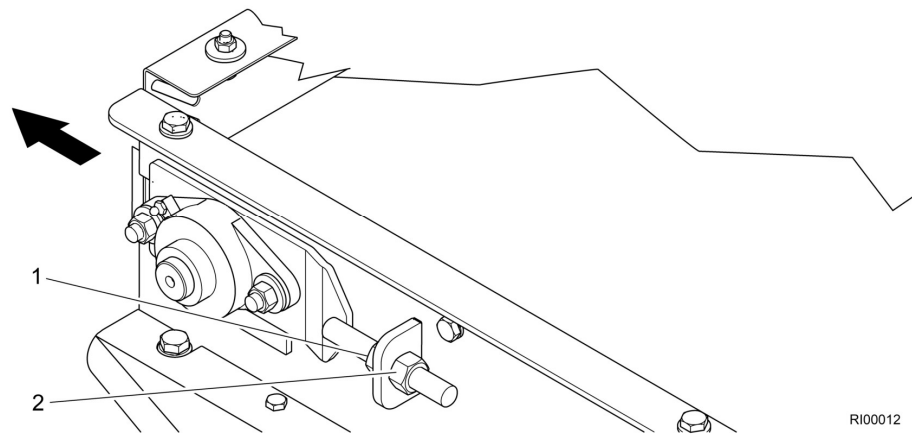

Fig. 47 Readjusting the conveyor belt
1. If the conveyor belt is running to the left, for example, and is brushing against the left side of the conveyor unit, loosen the counter nut (Fig. 47/2) on the left side of the conveyor belt.
2. Gradually turn the nut (Fig. 47/1) half a turn clockwise.
3. Tighten the counter nut (Fig. 47/2).